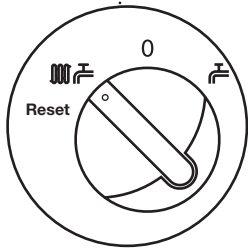

Fig. 2
1. With the selector switch in the on position (Fig. 2) the pump will automatically operate for 1 minute in every 24 hours to prevent sticking.